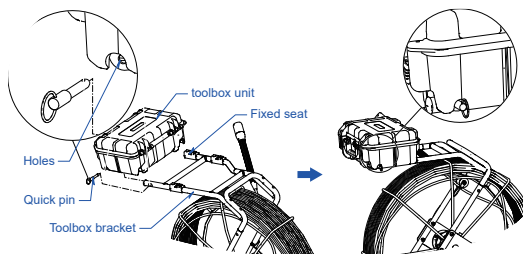

Figure 19.
5. If you choosed the toolbox unit, please install the toolbox unit (Figure 19)